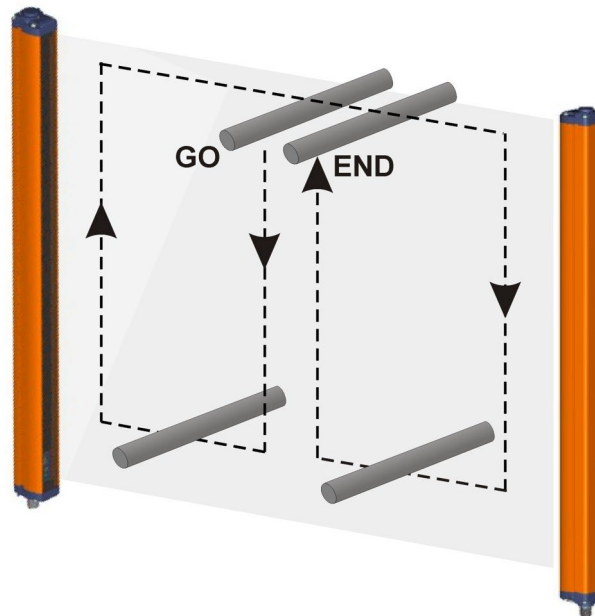

Fig 18 - Path of the test piece
- ESPE remains blocked (➡ lit RED) intercepting the beams along the protected area using the specific test piece, following the scheme in **Fig 18 - page 25**.